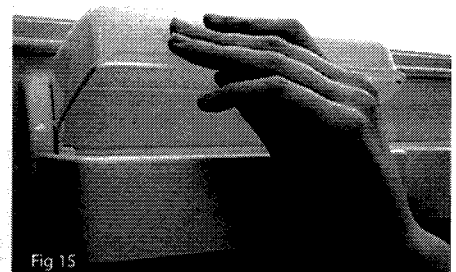

Fig 15
- Commodity racks (Fig 15) enable you to maximise the storage capacity of the inner door.